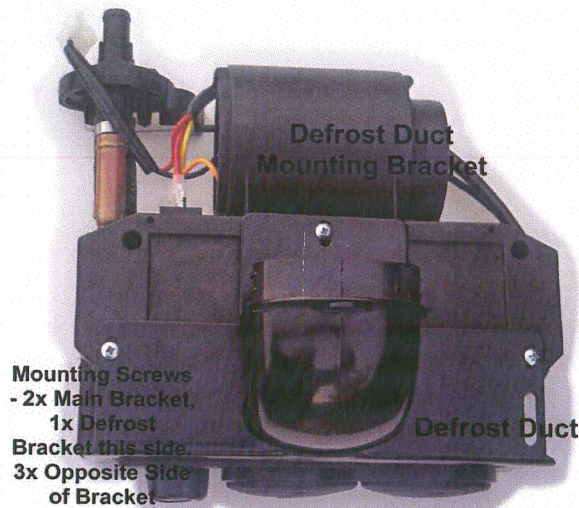

Figure 3
10. Assemble the main heater mounting bracket, defrost duct mounting bracket and defrost duct elbow as shown in Figure 3: